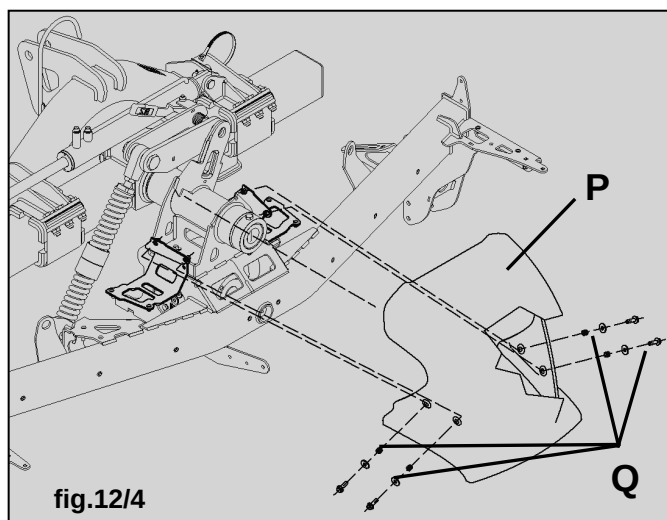

fig.12/4
12.4 Mounting the protective hood (fig.12/4)
12.4 Montage du capot de protection (fig.12/4)